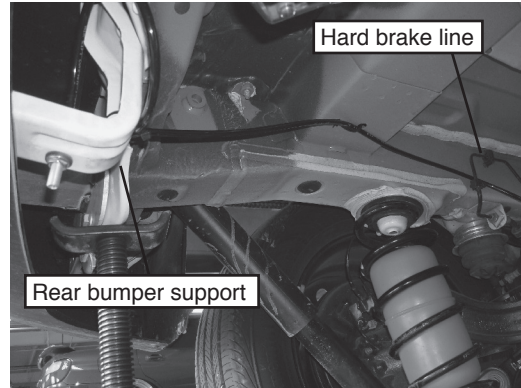

fig. 11
8. Push the remaining air line and hose clamp over the last fitting on the tee and route the hose up to the left frame section and behind the hard rear brake line on the inside of the frame. Route the hose along the frame to the back of the vehicle (Fig. 11) securing the hose with the remaining zip ties.